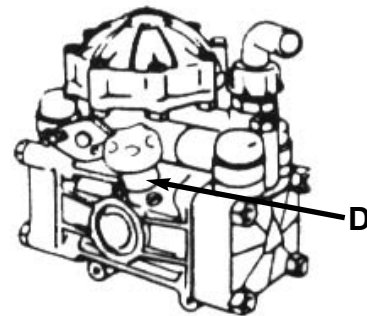

Fig. 2
2. Check oil level in pump daily. Be sure oil is halfway up to the clear oil sight tube (D). If it is not, fill to the correct level using a high-grade, nondetergent, SAE 30 weight oil. This will help prolong the pump life. (refer to Fig. 2)